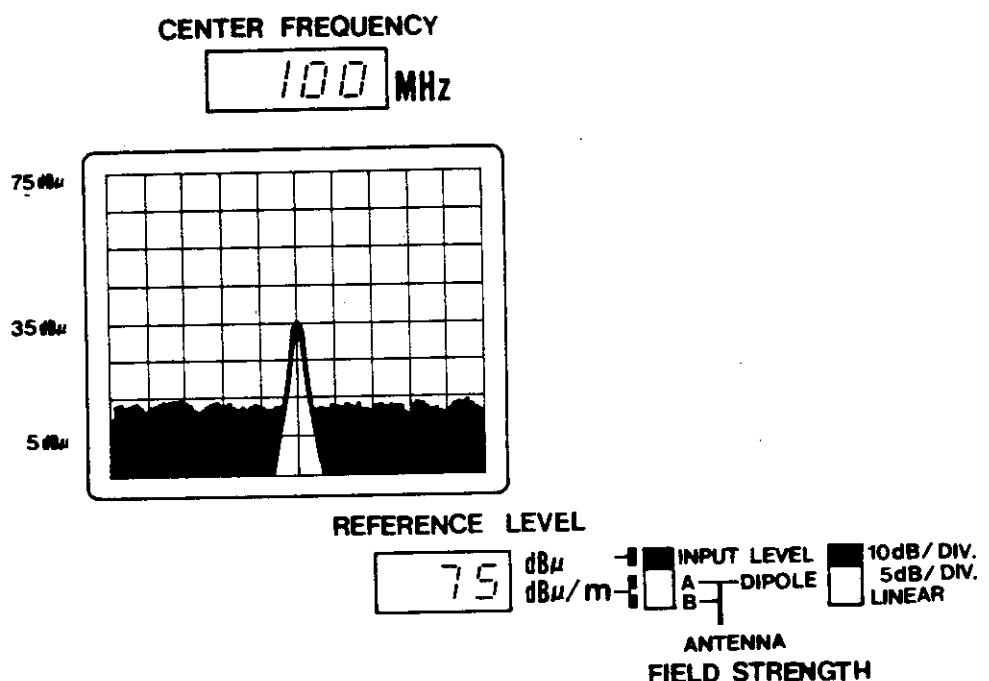

Fig. 3-31 Average Noise Level Test Procedure
- (3) Connect the Signal Generator output signal to INPUT of the instrument. Switch the external Attenuator to 50dB. [Fig. 3-31]